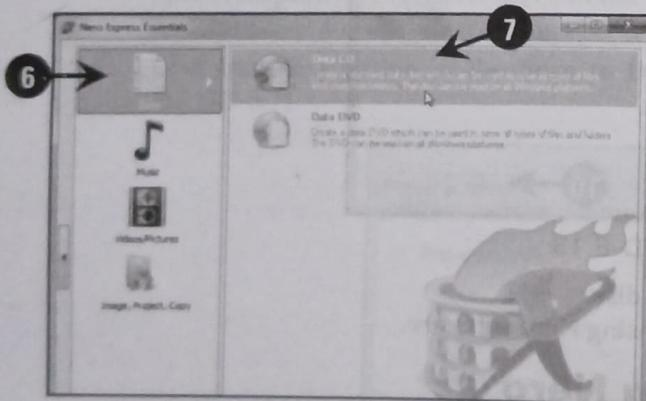

Fig.HD-8.16
The **Nero Express Essentials** wizard appears (Fig.HD-8.16). This wizard displays two panes. From the left pane, you can select a category, such as Data, Music, Video/Pictures, and Image, Project, Copy. The right pane displays options to write data either on a CD or a DVD.
6. Select a category from the left pane in the **Nero Express Essentials** wizard. In our case, we have selected the **Data** category (Fig.HD-8.16). A list of options appears on the right pane (Fig.HD-8.16).
7. Select an option from the right pane in the **Nero Express Essentials** wizard. In our case, we have selected the **Data CD** option (Fig.HD-8.16).